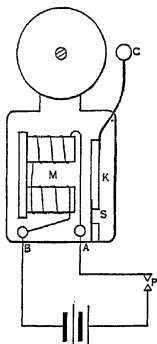

Fig. 135. Single-stroke electric bell.
**74. Electric Bells.** The simplest single-stroke bell is constructed as in Fig. 135. When the button *P* is pushed, the battery sends a current through the coils of the electro-